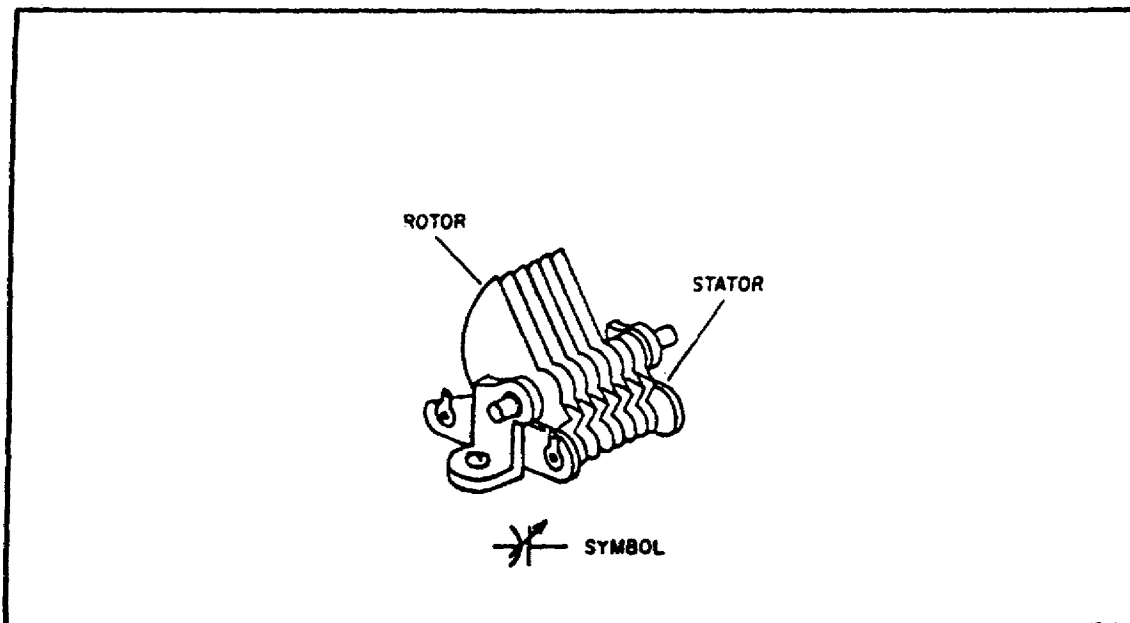

FIGURE 45. ROTOR-STATOR TYPE VARIABLE CAPACITOR.
m. *Variable Capacitors.* A variable capacitor is constructed in such a manner that its value of capacitance can be varied. A typical variable capacitor (adjustable capacitor) is the rotor-stator type. It consists of two sets of metal plates arranged so that the rotor plates move between the stator plates. Air is the dielectric. As the position of the rotor is changed, the capacitance value is changed. This type of capacitor is used for tuning most radio receivers. Its physical appearance and its symbol are shown in figure 45 on the following page.